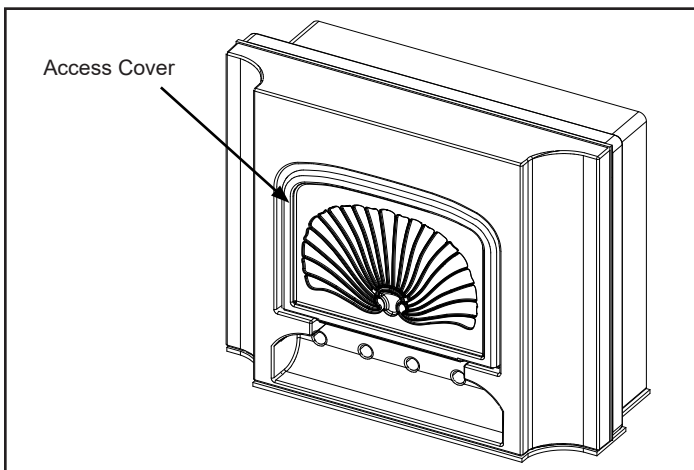

Figure 5.6 - Locate access cover.
1. Locate the access cover positioned at the rear center of the unit. (Figure 5.6)